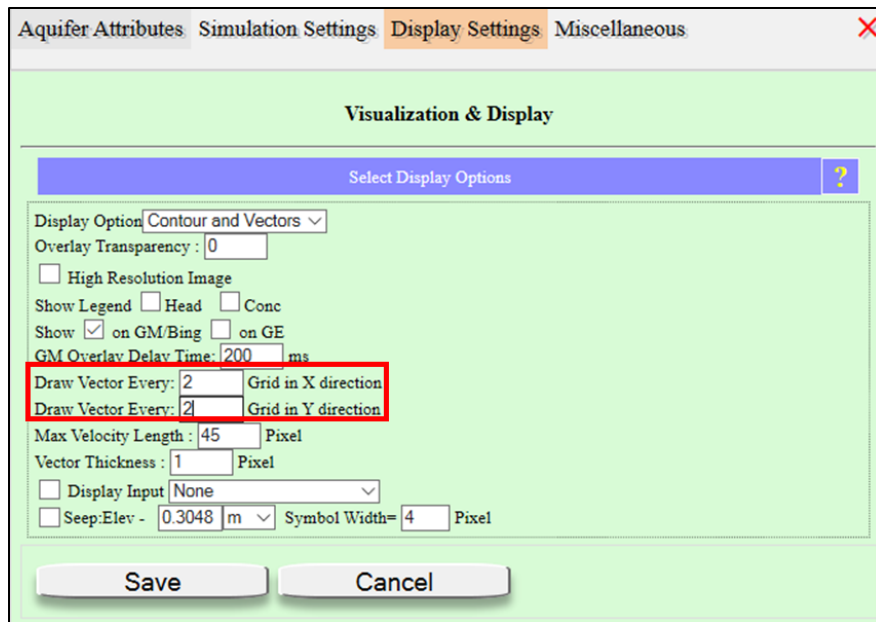

Figure 7. Adjusting the vector spacing in the Display Settings tab of the Domain Attributes menu.
- Reduce the vector size by navigating to the ‘Display Settings’ tab of the Domain Attributes menu and increasing the vector spacing from ‘1’ to ‘2’ pixels (see Figure 7)